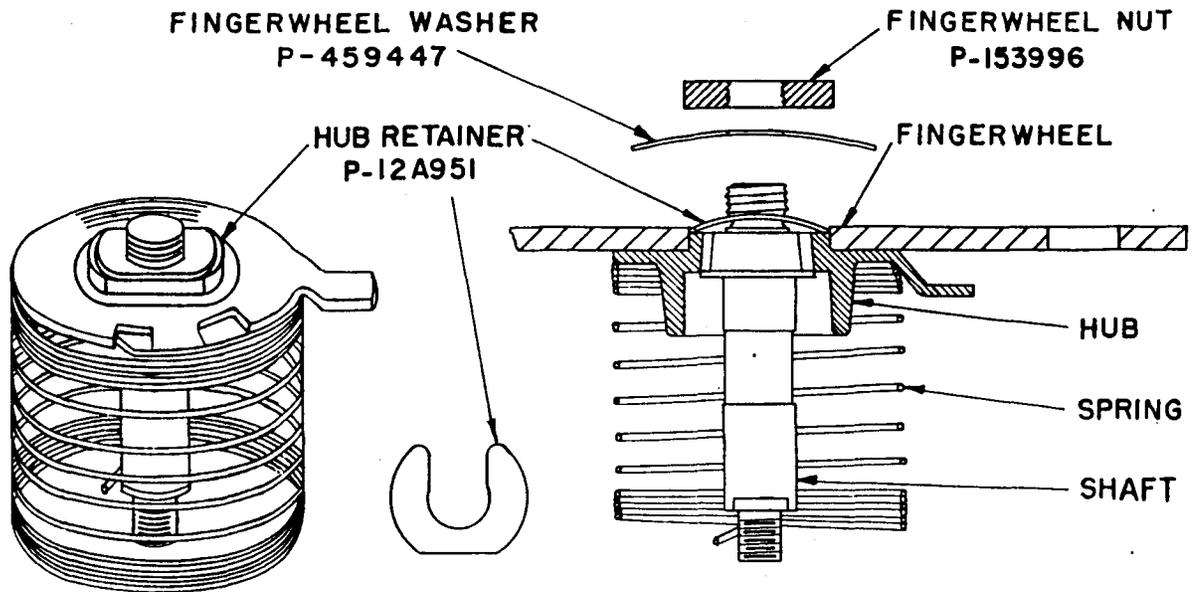

Fig. 12 - Dial Hub Retainer and Spring Washer
**7.02** If for any reason fingerwheel hex nut is removed on dials of earlier manufacture not equipped with a black finished fingerwheel nut, the motor spring and hub assembly may jump out of its proper position. This condition can be prevented by use of hub retainer P-12A951, as shown in Fig. 12. To assemble, hold fingerwheel down while nut and washer are removed, and insert hub retainer. Replace dial if motor spring and hub assembly jump out of place.